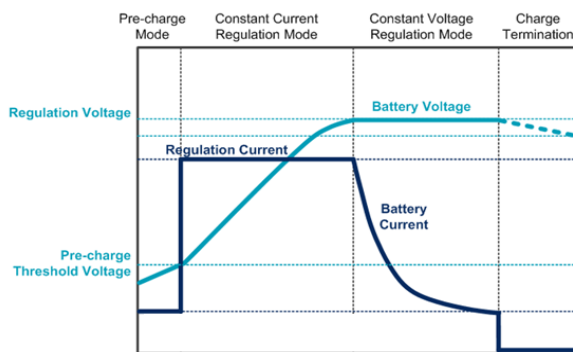

Figure 24: Pre-Charge and Charge Voltage/Current Diagram
The Charger supports pre-charging and normal charging as explained in Figure 24. The charger starts at constant current mode (CC) to get the battery voltage to the predefined voltage level. It then switches to constant voltage mode and continues until the current drops below the expected threshold indicating that the Battery has reached the charging limits.